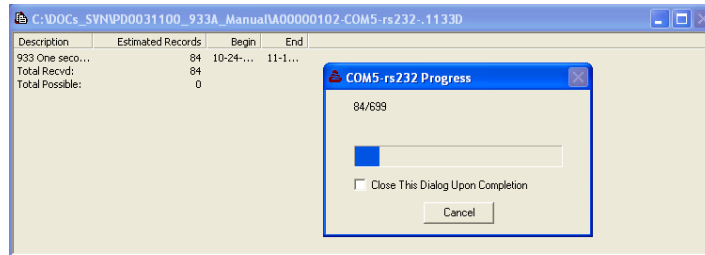

Figure 5.13: Downloading Per-Second Data
- Choose a file name and click OK to save the file log. During this time a window will appear that shows both the progress and the record files being transferred from the 933A to a file on your computer. See Figure 5.13.